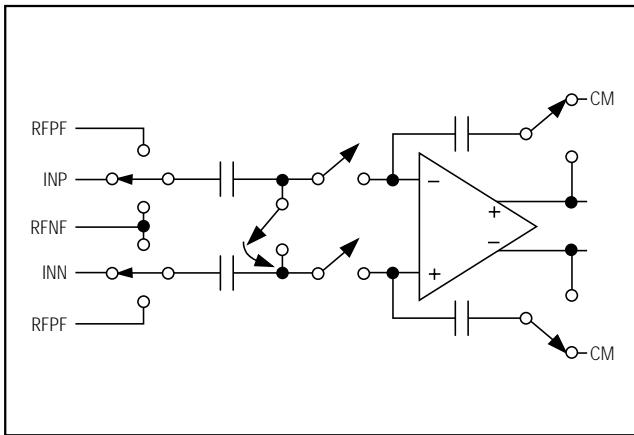

Figure 2. Simplified MDAC Architecture
Fully differential switched-capacitor circuits (SC) are used for both the reference and analog inputs (Figure 2). This allows either single-ended or differential signals to be used in the reference and/or analog signal paths. The signal voltage on these pins (INP, INN, RFP_–, RFN_–) should never exceed the analog supply rail, AVDD, nor fall below ground.